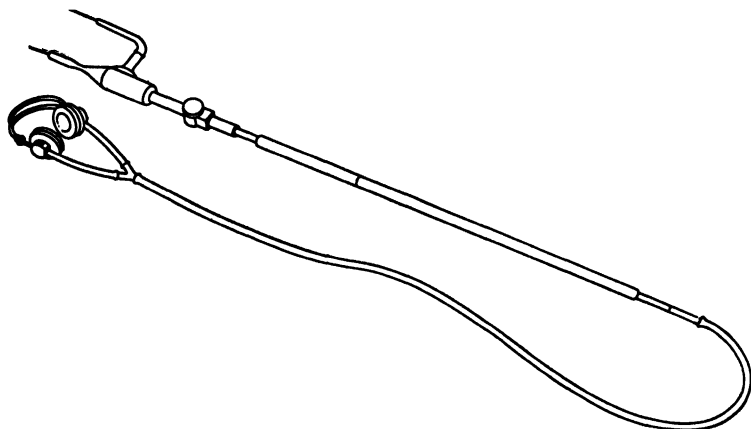

FIG. 21-13. Telephonic-type live suspension-type insulator tester, showing head, stick, hose, and earpiece. (*Courtesy Doble Engineering Co.*)
**Suspension-type Tester.** The suspension-type tester is illustrated in Fig. 21-13 and is seen also to consist of a head, stick, hose, and earpieces. Only the head is different from the pin-type tester.